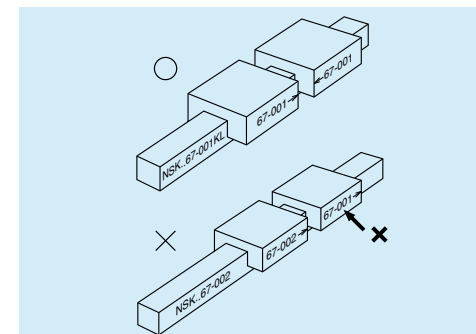

Fig. 10.28
- In case that the slides had to be removed from the rail, confirm their serial numbers and the directions of arrows for re-assembly (**Fig. 10.28**).